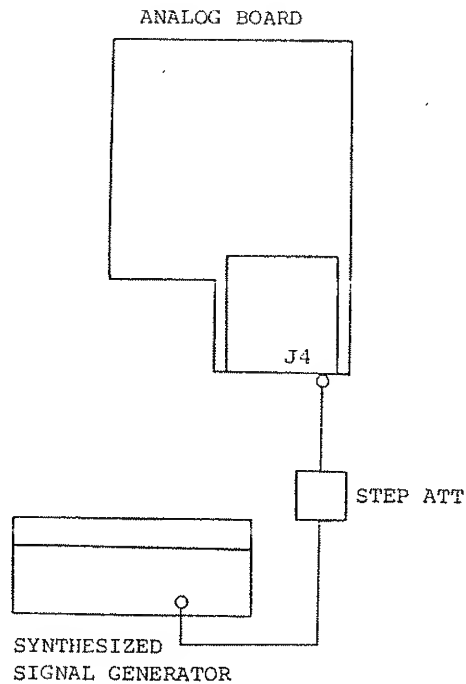

Figure 10-1 Log Amplifier Adjustment
- ③ Connect the log amplifier as shown in Figure 10-1.
- ④ Set the signal generator as follows: